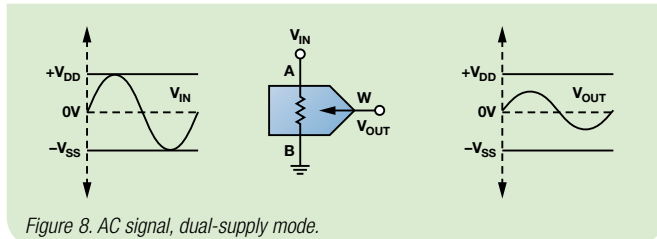

Figure 8. AC signal, dual-supply mode.
- Dual supply:  $\pm 2.25$  V to  $\pm 16.5$  V (see Figure 8)